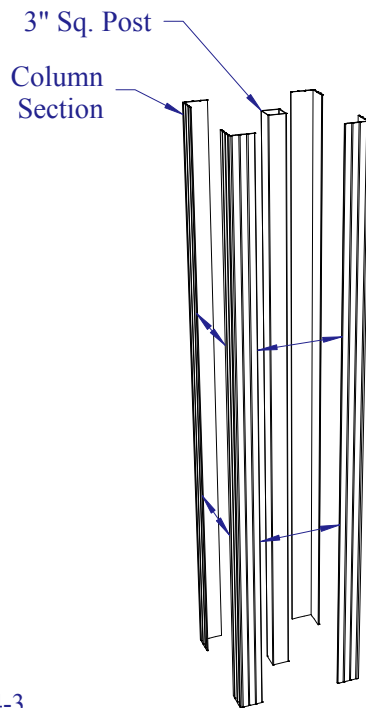

Fig. 4-3
- Once two sets of sections are locked together, stand them on end and snap the open ends together around a post (see Fig. 4-3).